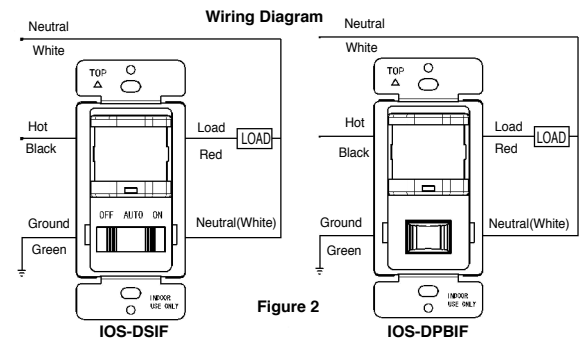

Figure 2
1. Connect lead wires as shown in WIRING DIAGRAM (see Figure 2): Black lead to Line (Hot), Red lead to Load wire, White Lead to Neutral wire, Green lead to Ground.